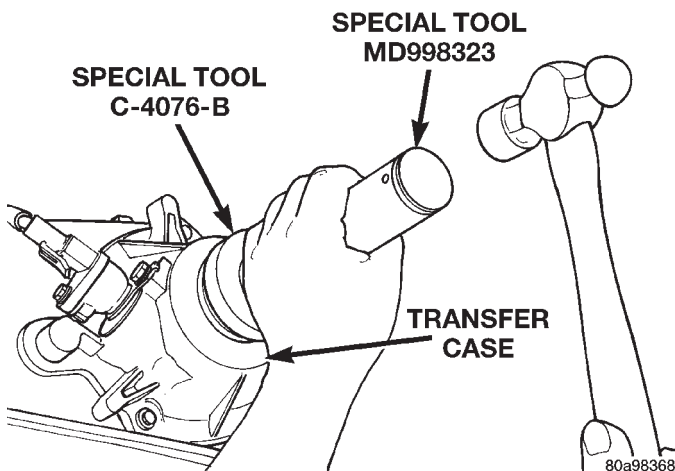

Fig. 90 Rear Seal Installation
(9) Slide Installer C-4076-B onto seal protector with the recessed side of the tool toward the seal. Drive seal into rear bearing retainer with installer C-4076-B and handle MD-998323 (Fig. 90).
(10) Install rear slinger with installer C-4076-A and handle MD-998323 (Fig. 90).